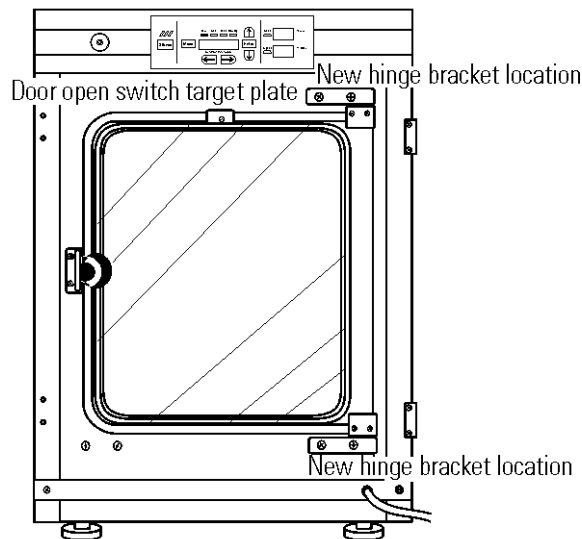

Figure 5-6. Reversed Components
18. Install the door open switch target plate. Refer to Figure 5-6 and 5-7. The plate must be positioned exactly 12.5 inches from the outside edge of the cabinet to the leading edge of the plate. Do not overtighten.